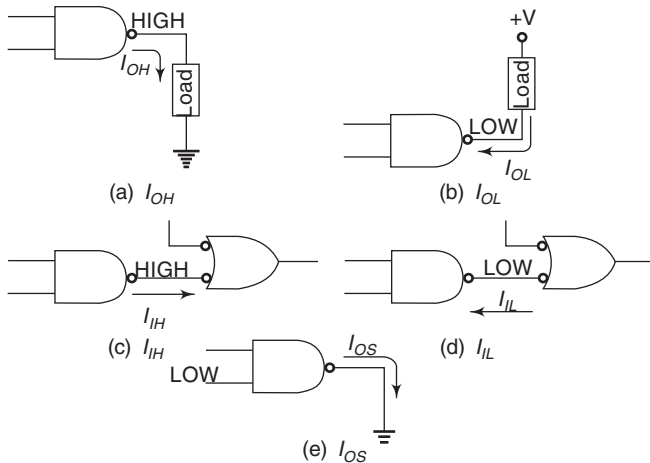

Fig. 9.2 Illustrating Data Sheet Parameters.
2. I_{OH} : The maximum output current that the gate can source to a load and operate reliably when the output is at HIGH level. By convention, the current out of a terminal is assigned a negative value. Figure 9.2(a) illustrates this parameter.
- I_{OL} : The minimum output current that the gate can sink and operate reliably when the output is at LOW level. By convention, current into a terminal is assigned a positive value. Figure 9.2(b) illustrates this parameter.
- I_{IH} : The value of input current for a HIGH level input voltage, Fig. 9.2(c).
- I_{IL} : The value of input current for a LOW level input voltage, Fig. 9.2(d).
- I_{OS} : The output current when the gate output is shorted to ground and with input conditions that establish a HIGH level output, Fig. 9.2(e).